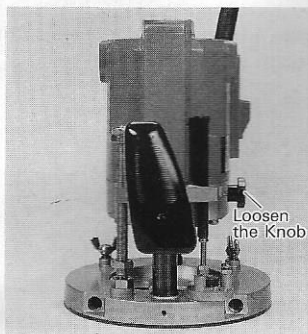

Fig. 5
- (1) Loosen the knob, and cause the stopper pole to contact the stopper block.(Fig. 5)